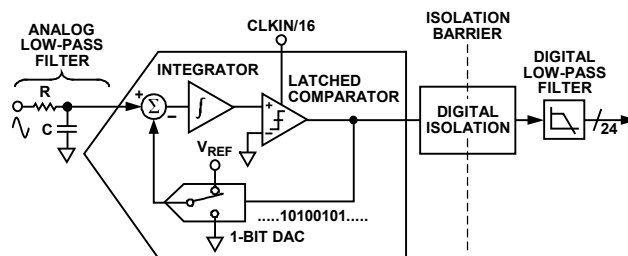
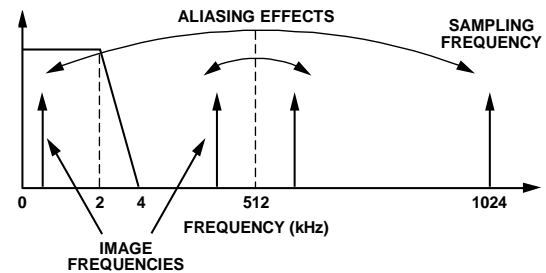

Figure 25. First-Order  $\Sigma$ - $\Delta$  ADC
Figure 27. Aliasing Effects
The ADE7912/ADE7913 have three second-order  $\Sigma$ - $\Delta$  ADCs. For simplicity, the block diagram in Figure 25 shows a first-order  $\Sigma$ - $\Delta$  ADC. The converter is composed of the  $\Sigma$ - $\Delta$  modulator and the digital low-pass filter, separated by the digital isolation block.
Figure 25 also shows an analog low-pass filter (RC) on the input to the ADC. This filter is placed outside the ADE7912/ADE7913, and the role is to prevent aliasing. Aliasing is an artifact of all sampled systems, as shown in Figure 27. Aliasing refers to the frequency components in the input signal to the ADC that are higher than half the sampling rate of the ADC and appear in the sampled signal at a frequency below half the sampling rate. Frequency components above half the sampling frequency (also known as the Nyquist frequency, that is, 512 kHz) are imaged or folded back down below 512 kHz. This happens with all ADCs, regardless of the architecture. In Figure 27, only frequencies near the sampling frequency of 1.024 MHz move into the bandwidth of interest for metering, that is, 40 Hz to 3.3 kHz, or 40 Hz to 2 kHz. To attenuate the high frequency noise (near 1.024 MHz) and prevent the distortion of the bandwidth of interest, a low-pass filter (LPF) must be introduced. It is recommended that one RC filter with a corner frequency of 5 kHz be used for the attenuation to be sufficiently high at the sampling frequency of 1.024 MHz. The 20 dB per decade attenuation of this filter is usually sufficient to eliminate the effects of aliasing.
All ADCs in the ADE7912/ADE7913 produce 24-bit signed output codes. With a full-scale input signal of 31.25 mV on the current channel and 0.5 V on the voltage channels, and with an internal reference of 1.2 V, the ADC output code is nominally 5,320,000 and usually varies for each ADE7912/ADE7913 around this value. The code from the ADC can vary between 0x800000 (−8,388,608) and 0x7FFFFF (+8,388,607); this is equivalent to an input signal level of ±49.27 mV on the current channel and ±0.788 V on the voltage channels. However, for specified performance, do not exceed the nominal range of ±31.25 mV for the current channel and ±500 mV for the voltage channels; ADC performance is guaranteed only for input signals within these limits. For input signals outside these limits, the digital low-pass filter of the ADCs (see Figure 25) overflows.